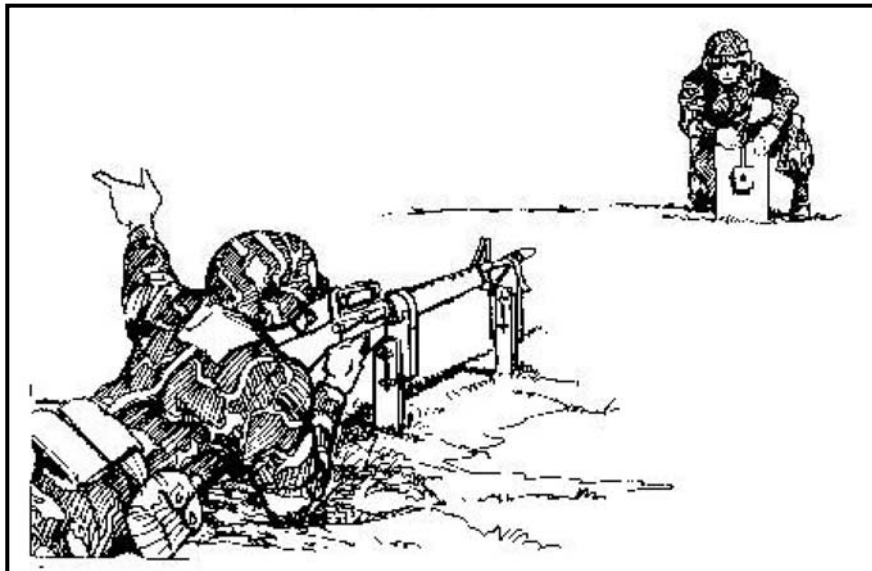

Figure A-5. Target-box exercise.
(6) *Target-Box Exercise.* The target-box exercise checks the consistency of aiming and placement of three-round shot groups in a dry-fire environment (Figure A-5, page A-6).